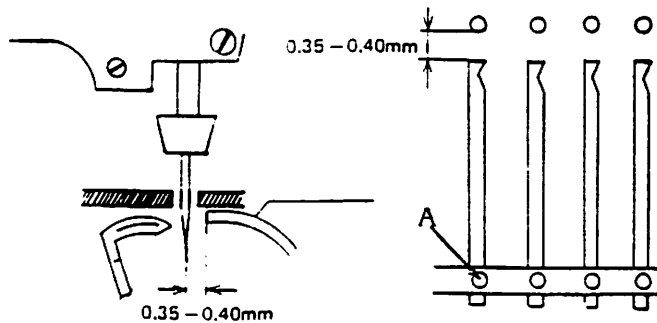

FIG 11.
b).Distance of Needle To The Point of Spreader Looper (Fig 11).